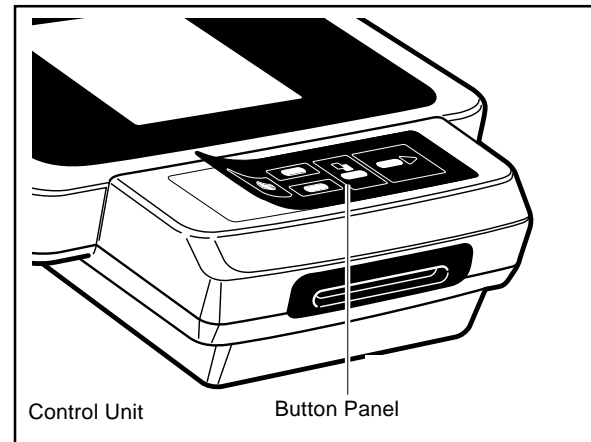

Fig. 1
1. Insert a thin cutting knife, while paying cautions not to damage the control unit, in between the button panel and the body, and carefully peel off the button panel. (Fig. 1)